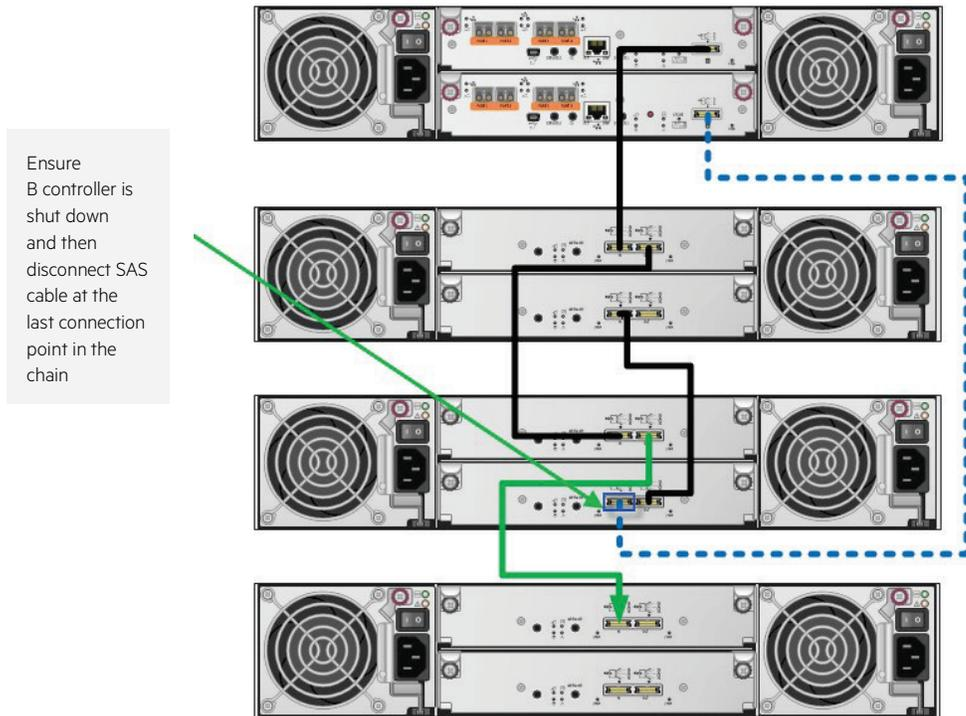
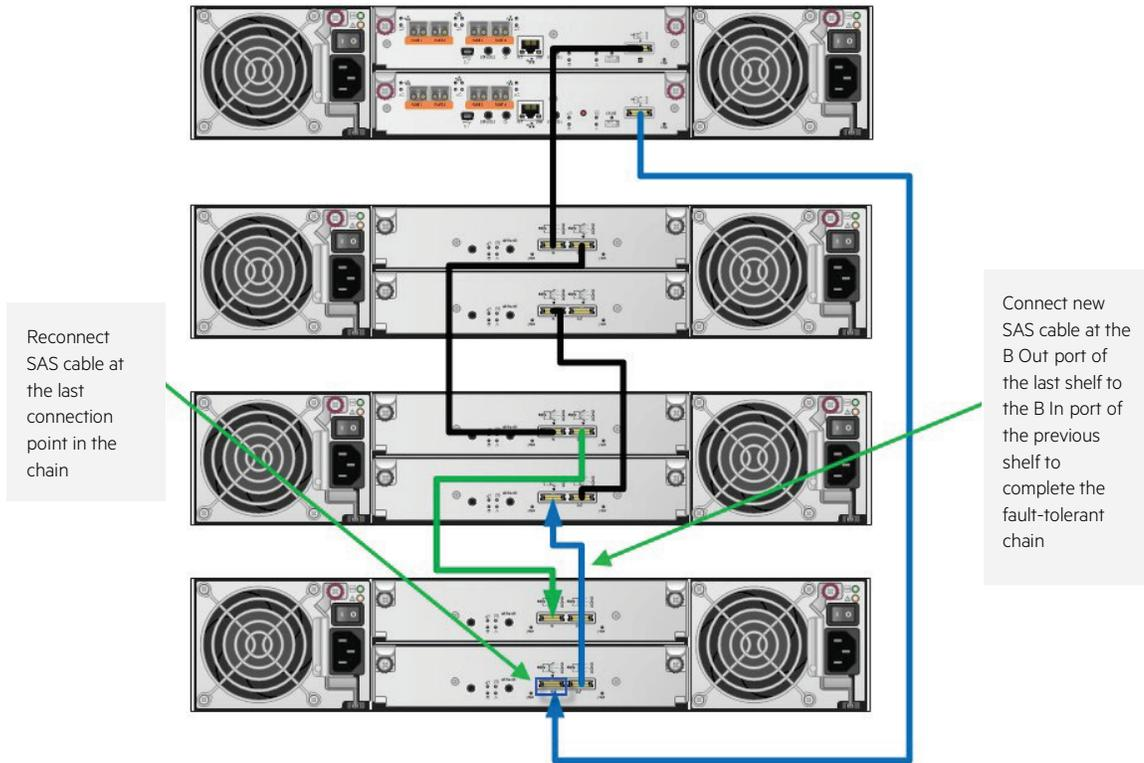

Figure 35. Breaking the B channel chain to extend B channel to additional shelf
Figure 36. Completing the fault-tolerant chain on the B channel
- 8. Disconnect the existing SAS cable (Figure 35 dashed blue cable) from controller B of the current HPE MSA 1050/2050/2052 Storage System to the B port In of the existing Disk Enclosure and reconnect the SAS cable to the last Disk Enclosure in the chain (Figure 36 blue cable).
9. Connect the new SAS cable (**Figure 36 blue cable**) from the B port **Out** of the new HPE MSA 1050/2050/2052 Disk Enclosure to the B port **In** of the previous Disk Enclosure.